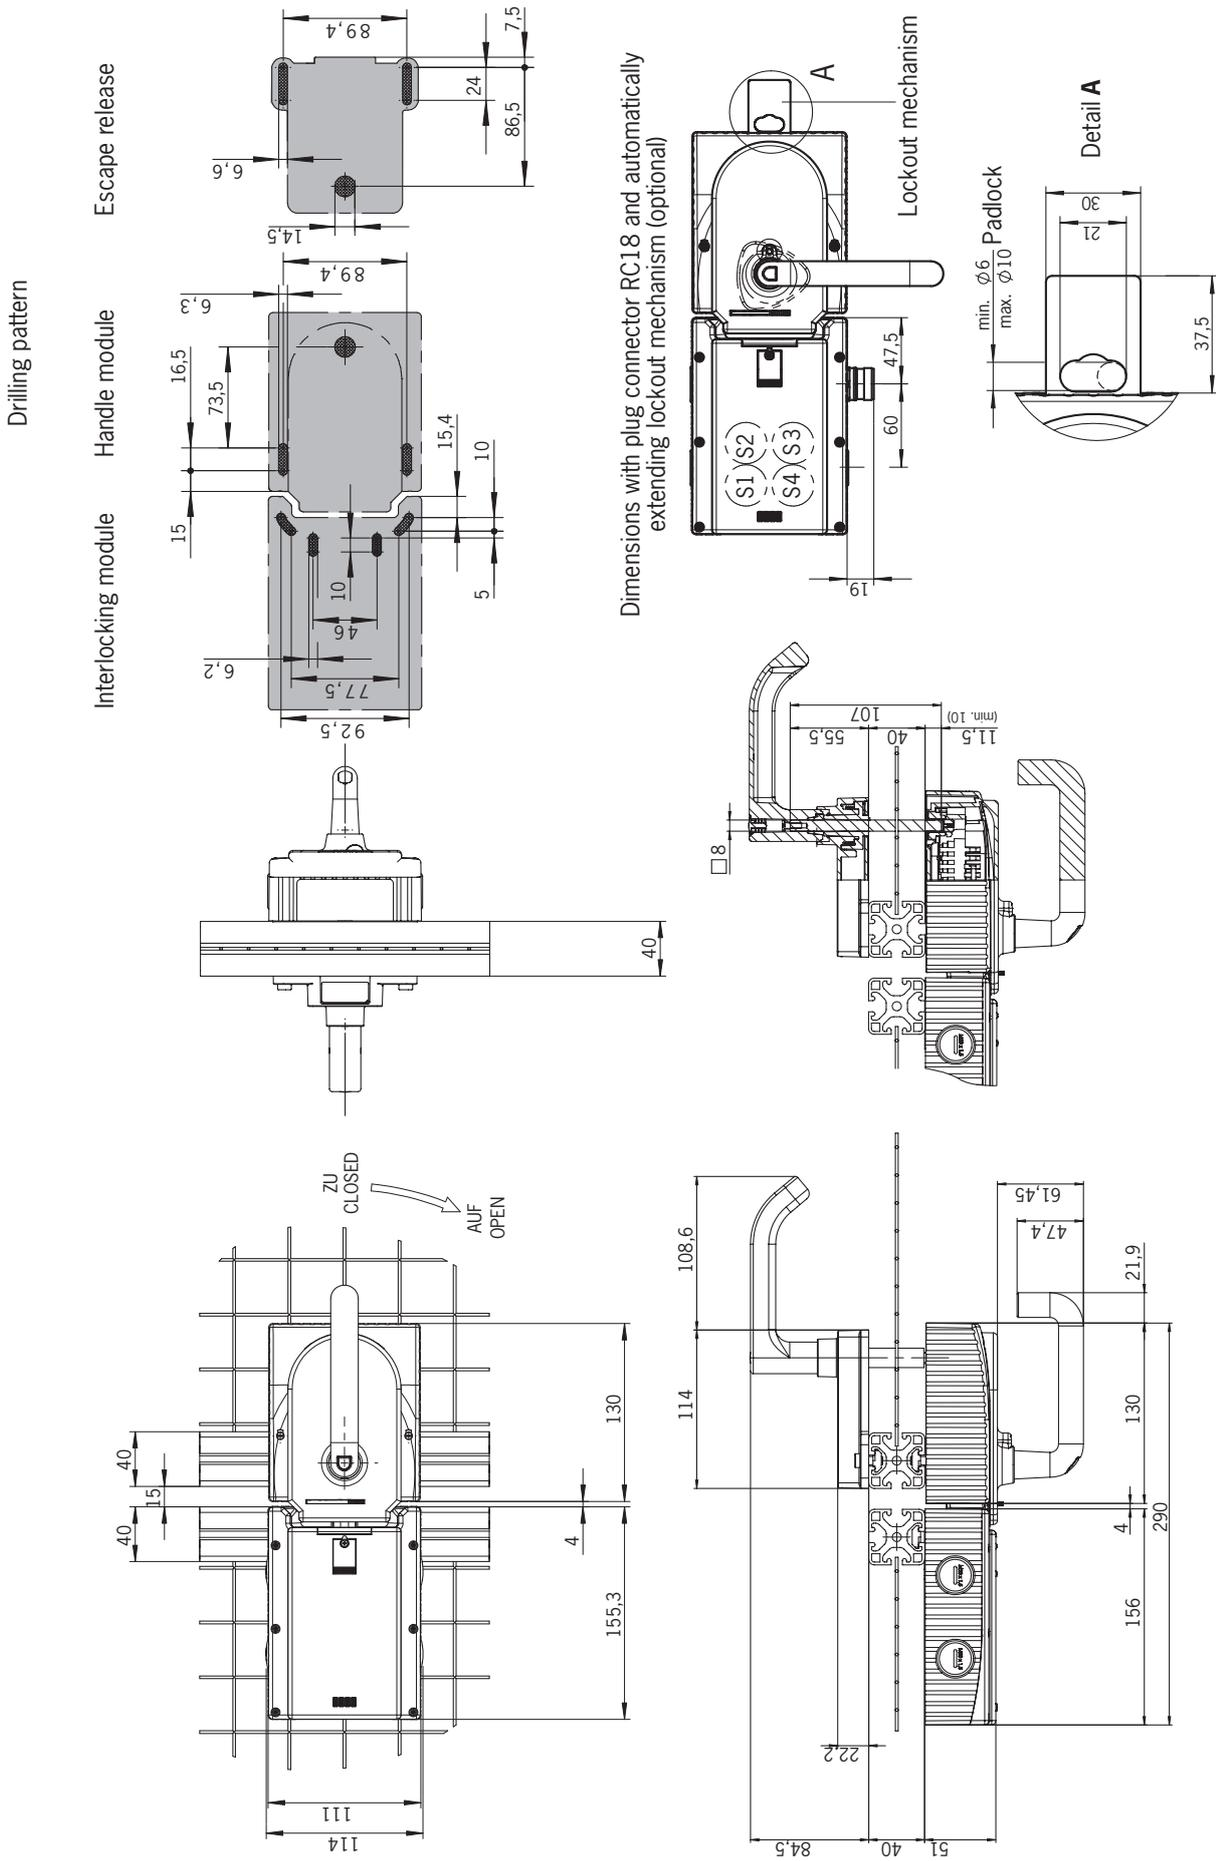
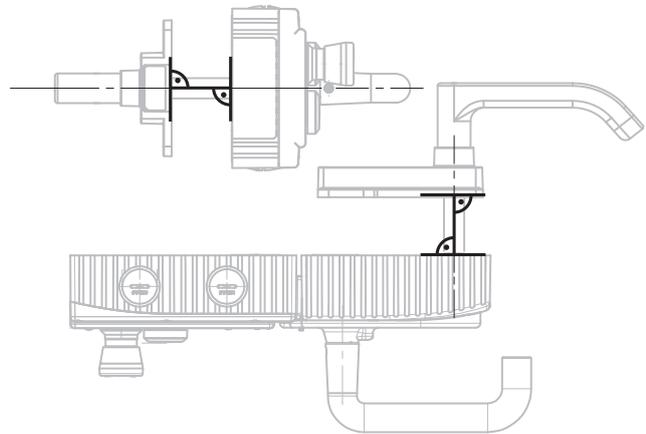

Fig. 4: Dimension drawing MGB fitted, without optional mounting plates
Fig. 7: Installation example for door hinged on the right (general view)
- Adjust escape release axis at right angles to the handle module. See Fig. 4 and Fig. 7.
For mounting steps, see *Fig. 7* and *Fig. 8* to *Fig. 13*.